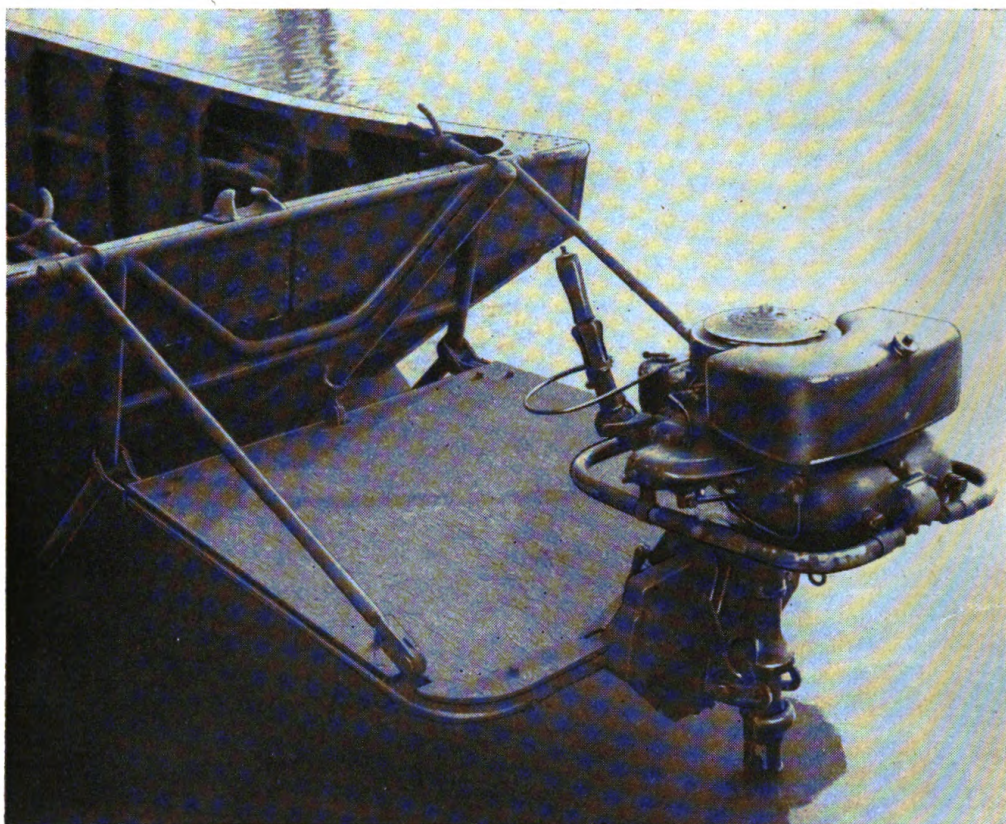

Figure 25. POLR-15 attached to 10-ton ponton with 10-ton ponton 22-hp outboard motor stern attachment bracket.
b. ON VARIOUS TYPES OF FLOATING EQUIPMENT. Figures 25 to 30 inclusive show how the POLR-15 is attached to—